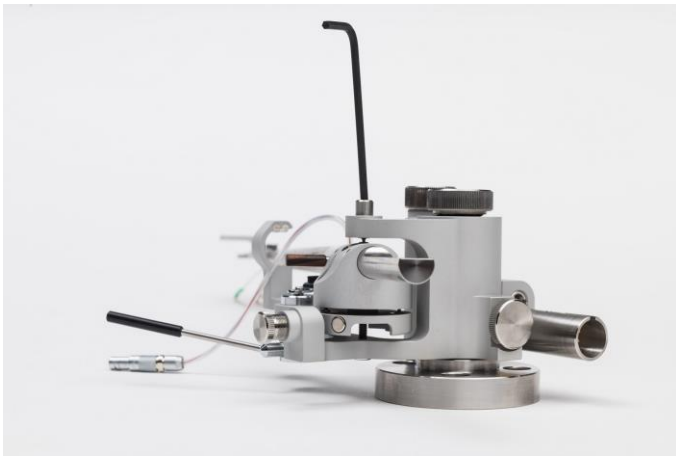

Figure 4
- f) Screw in a top bearing of vertical axis. **Needle of the bearing must be embed in sapphire V cup.** Bearing should be screwed in tight, however do not apply excessive force (Figure 4).